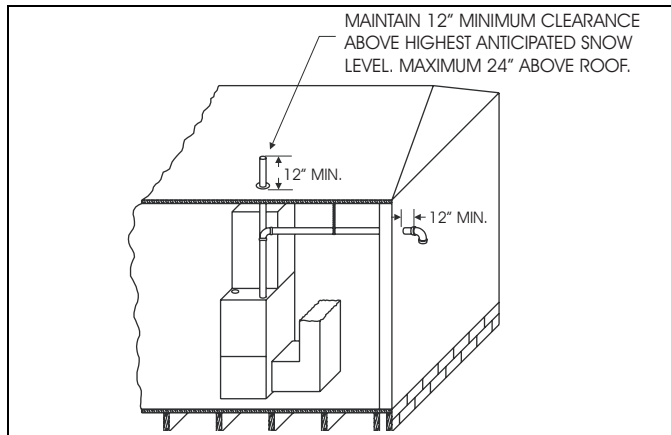
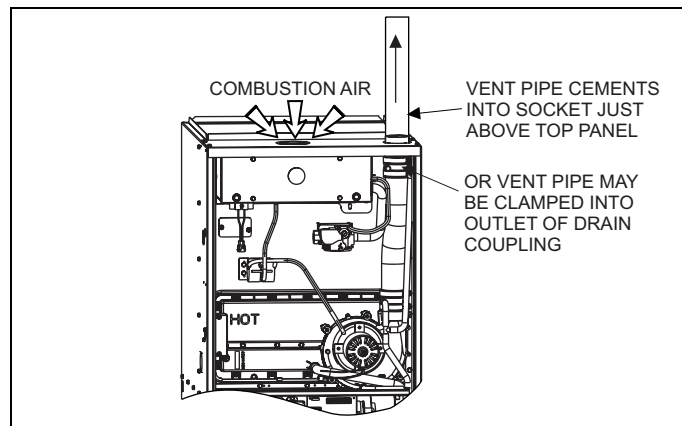

FIGURE 10: Termination Configuration - 1 Pipe
FIGURE 16: Combustion Airflow Path Through The Furnace Casing
The combustion air side of the single pipe configuration shown in Figure 10 is referred to in these instructions as ambient combustion air supply. Follow the instructions for ambient combustion air installations, paying particular attention to the section on air source from inside the building. The vent for a single pipe system must be installed as specified in the venting section of these instructions with the vent terminating as shown in Figure 10. Each furnace must have a separate vent pipe. Under NO circumstances can the two vent pipes be connected together.
2. **AMBIENT COMBUSTION AIR:** Combustion air is supplied from the area surrounding the furnace through vents or knockouts in the furnace casing. The combustion air and the vent pipes are not terminated in the same atmospheric zone. Refer to Figure 10 for vent terminations. Refer to "AIR SOURCE FROM INSIDE THE BUILDING" and "VENT AND SUPPLY AIR SAFETY CHECK" for proper installation. Refer to Figure 16.
This type installation will draw the air required for combustion from within the space surrounding the appliance and from areas or rooms adjacent to the space surrounding the appliance. This may be from within the space in a non-confined location or it may be brought into the furnace area from outdoors through permanent openings or ducts. It is not piped directly into the burner box. A single, properly sized pipe from the furnace vent connector to the outdoors must be provided. For upflow models combustion air is brought into the furnace through the unit top panel opening. Do not install a pipe into the intake collar on top of the burner box. Refer to Figure 16.